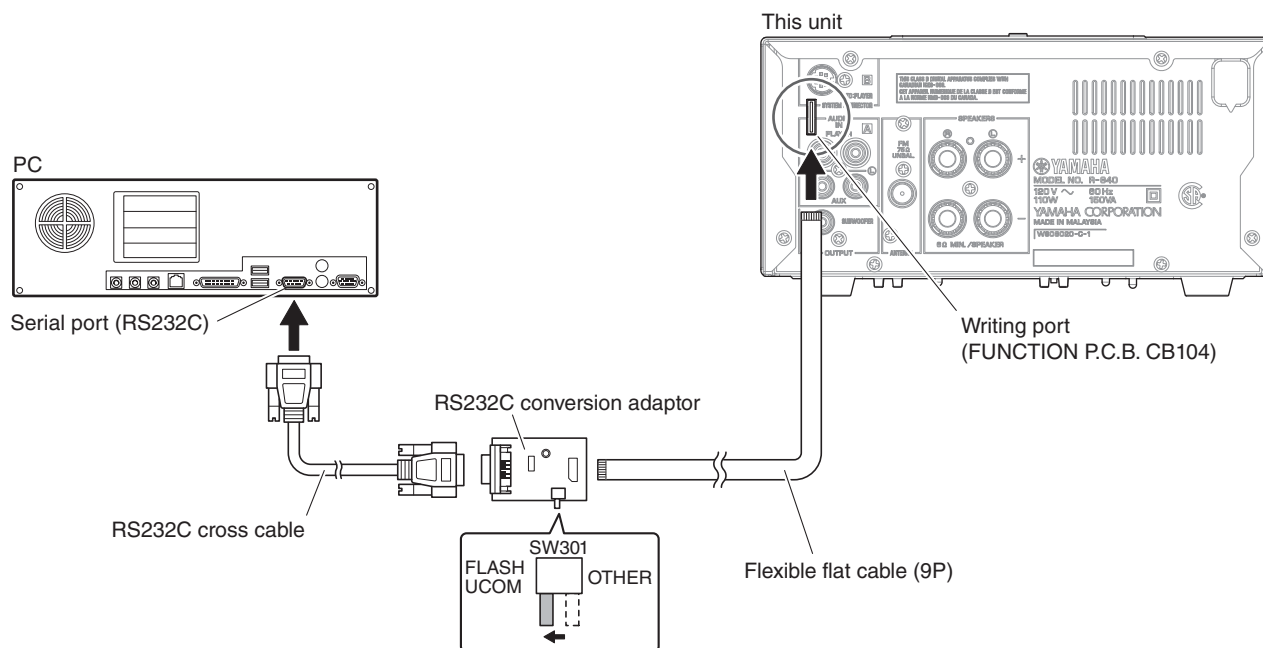

Fig. 1
- 1. Set the switch (SW301) of RS232C conversion adaptor to the "FLASH UCOM" position. (Fig. 1)